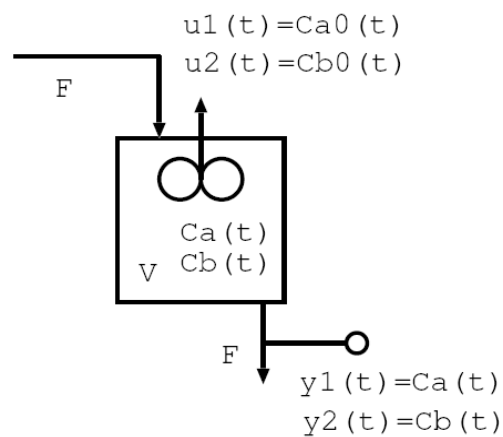

Figure 3: A constant volume mixing tank
- [d] Assuming a constant volume mixing tank for two species, A and B as shown in Figure 3. Assuming you can change the inlet and outlet concentrations of A and B. Develop a dynamic mass balance of this system.